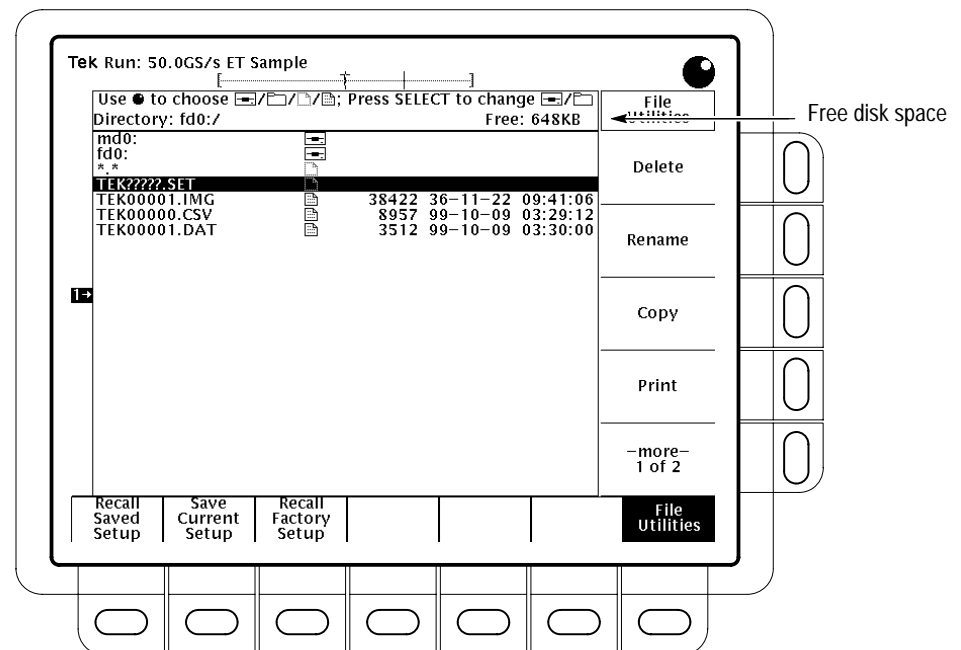

Figure 3–24: File Utilities
2. Press **File Utilities** in the main menu to bring up the File Utilities side menu. (See Figure 3–24.)